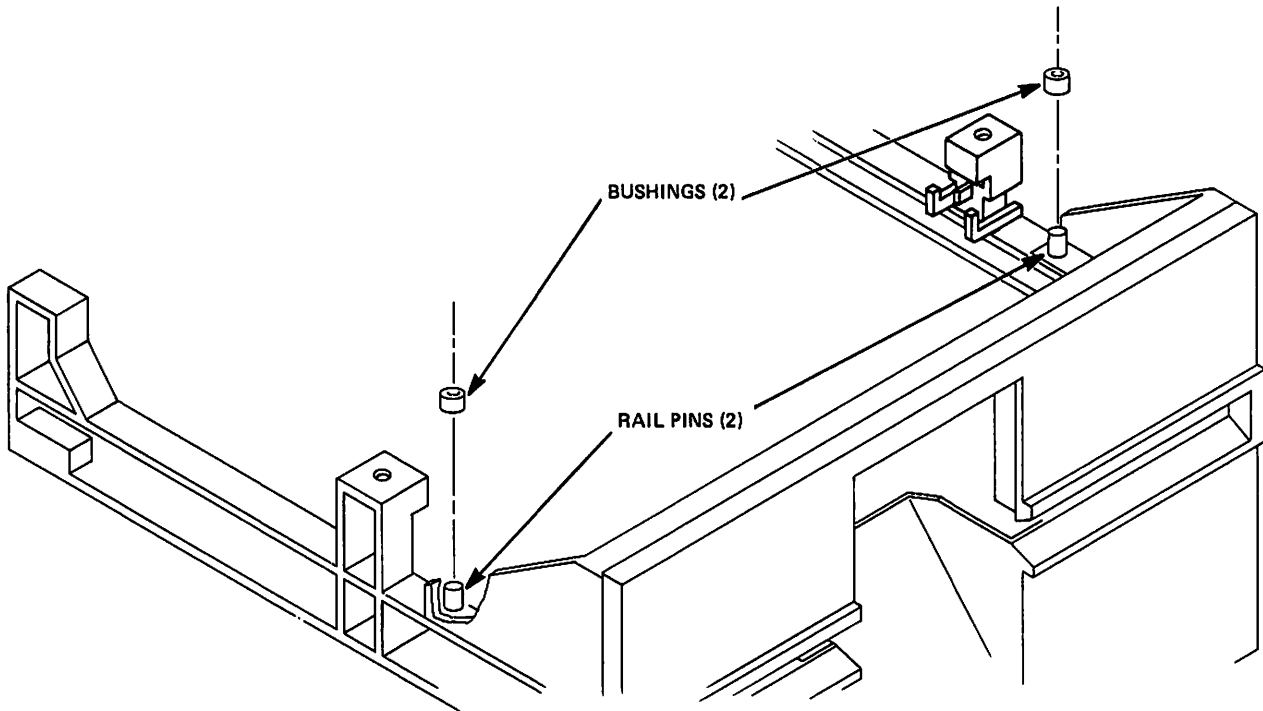

Figure 5-11
5.7.2 Using a pair of needle nose pliers, remove the two (2) bushings located on the right-hand and the left-hand top sides of the front panel by pulling up on them while using a twisting motion (see Figure 5-11).
5.7.7 Taking the new front panel, place the front door in its tracks on the front panel, and place the new front panel on the rail pins (see Figure 5-11).
5.7.11 Install two (2) new bushings on the right-hand and the left-hand front sides of the front panel (see Figure 5-11).